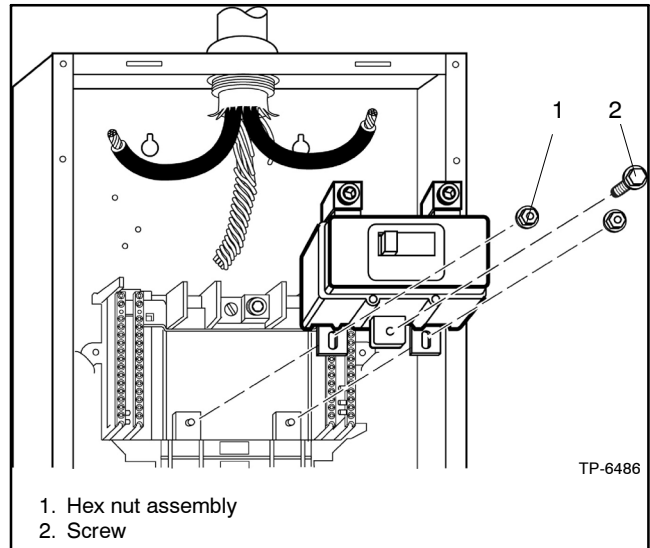

Figure 2-4 Installing Main Circuit Breaker
3. Using a 5/16 in. nut driver, remove the screw holding the existing circuit breaker in place. See Figure 2-4.
1. If the center screw holding the main circuit breaker in place is present (see Figure 2-4 for location), use a 5/16 in. nut driver to completely remove screw.